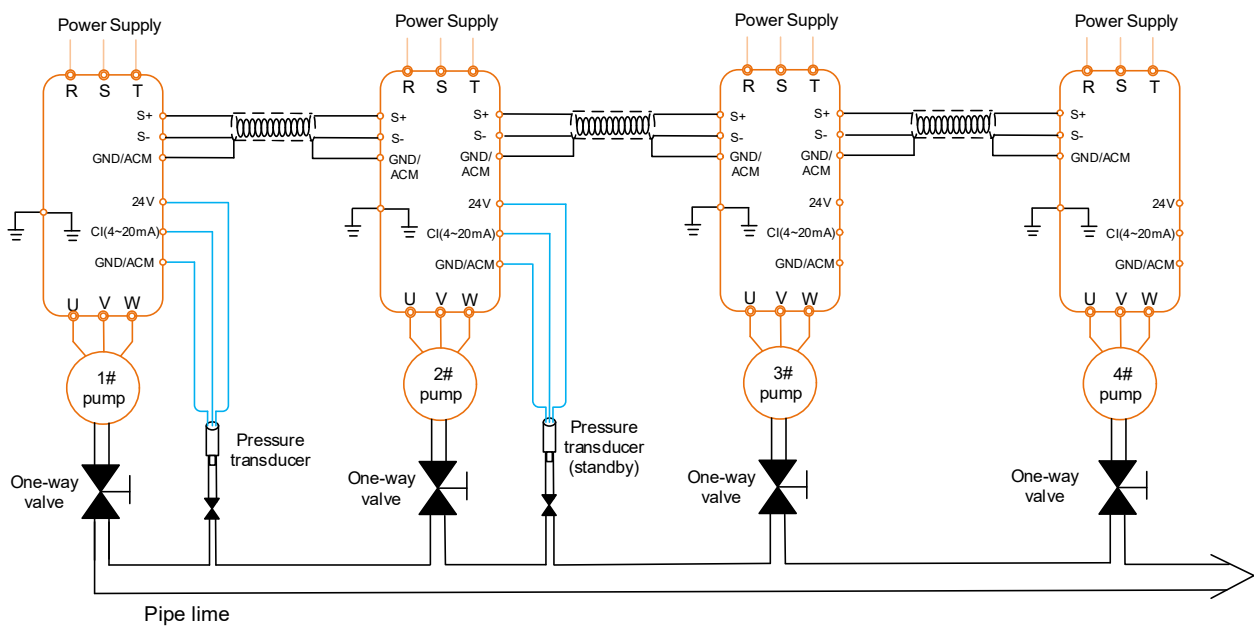
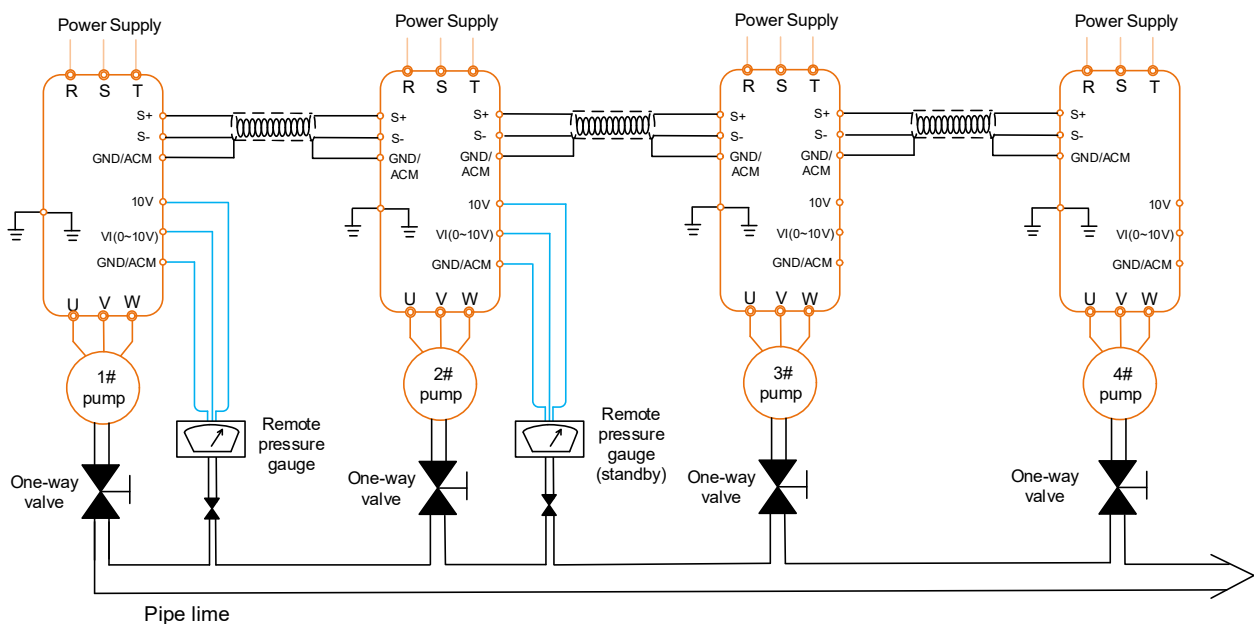

Fig 8.7 Connect with remote pressure transducer
Fig 8.8 Connect with remote pressure gauge
- ① Main circuit, please connect the power supply to R, S, T (Single phase please connect R, T), and output side please connect U, V, W with pump.
- ② Connect the pressure transducer or remote pressure gauge to ARA388/ARA386 correctly, please refer to Fig 8.7 and Fig 8.8 for details.
- ③ Connect the communication cables, please select shielded twisted-pair cable to connect the S+ and S- of the four inverters together.
- ① Set F0-00=0 (Manual operation mode) firstly, start ARA388/386 and check whether the running direction of pump is correct. If the running direction is incorrect, change the value of F0-02 or change any two motor cables connection.
- ② Under manual operation mode, discharge the air inside the pump and pipe line.
- ① Set correct value in F0-04.
- ② Under manual operation mode, start ARA388/386 and check whether the feedback pressure and real time display pressure on ARA388/ARA386 are the same. Long time press [▲] or [▼] to increase or decrease pump speed to check whether the feedback pressure is changed accordingly, if the feedback changes, it means the pressures transducer's wiring connection is correct (watch 1# pump).
- ① While start ARA388/386 at the first time or forget some parameters, please set F0-24=1 to initialize the factory default value.
- ② Set parameters one by one based on the above mentioned parameters list, F1-01 ~ F1-04 parameters are only needed to set in master inverter, but for two master system, it needs to set the parameters both in 1# inverter and 2 # inverter..